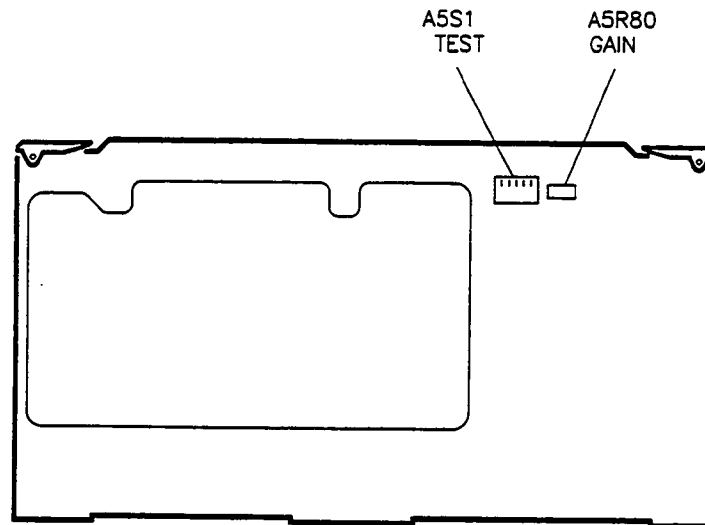

Figure 3-14. Switch and Adjustment Locations
4. On the A5 assembly, set all five switches on A5S1 to the closed position (see figure 3-14).
5. Adjust A5R80 (see figure 3-14) to center the "needle" on the display.